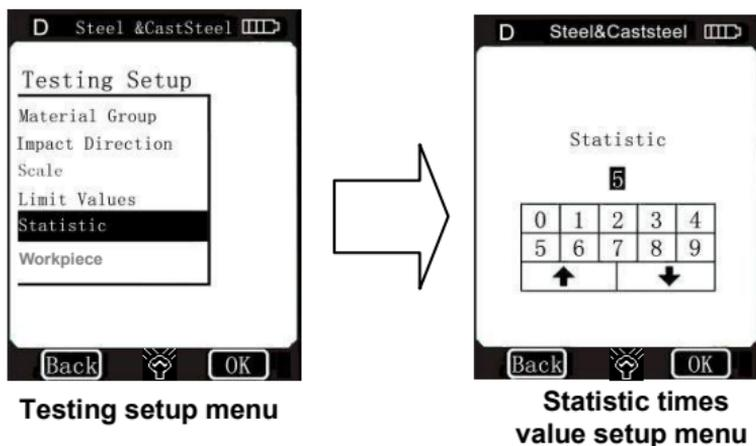

Fig 4.11
**Value**, “X” value (the Mean value of measured hardness value L) and “S” value (the difference of Maximum value and the minimum value) are automatically formed and display on the screen. In measure mode, use touch pen to click the “**Statistic**” character to display the **Statistic Times Value** setup menu; or in **Testing Setup** menu, click **Statistic** item to display the **Statistic Times Value** setup menu. Fig 4.11